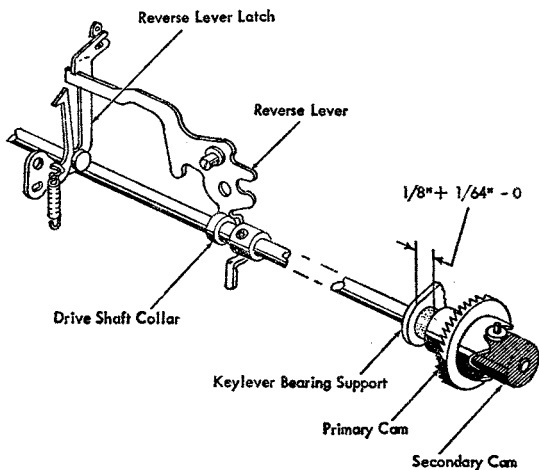

Figure 42. Drive Shaft Collar Adjustment
**12. DRIVE SHAFT COLLAR.** With the reverse-lever latched move the drive shaft to the right until there is a clearance of  $\frac{1}{8} + \frac{1}{64} - 0$  between the key-lever bearing support and the primary cam (Figure 42). Move the drive-shaft collar to the right until the left flange of the collar contacts the reverse lever.